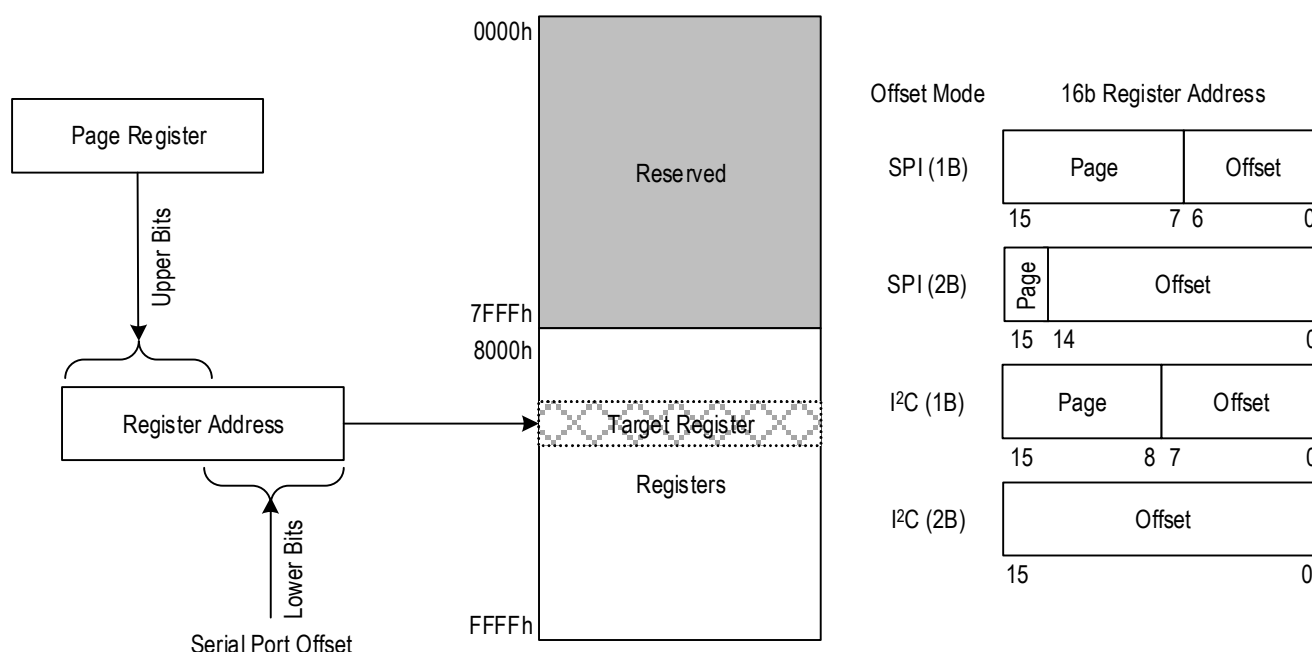

Figure 16. Register Addressing Modes via Serial Port
The user may choose to operate the serial port providing the full offset address within each burst or to operate in a paged mode where part of the address offset is provided in each transaction and part comes from an internal page register in each serial port. Figure 16 shows how page register and offset bytes from each serial transaction interact to address a register within the RC32012A.
- 1-byte (1B) or 2-byte (2B) offset addressing (see Figure 16)